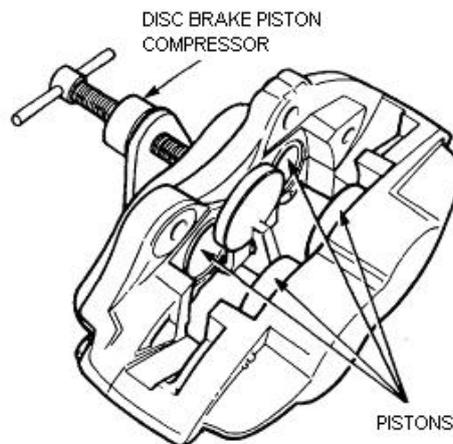

Figure 136 Securing the Pistons
- b. Install the disc brake piston compressor (Table 3, Serial 12) to retain both the pistons in the mounting flange half of the caliper (Figure 136).